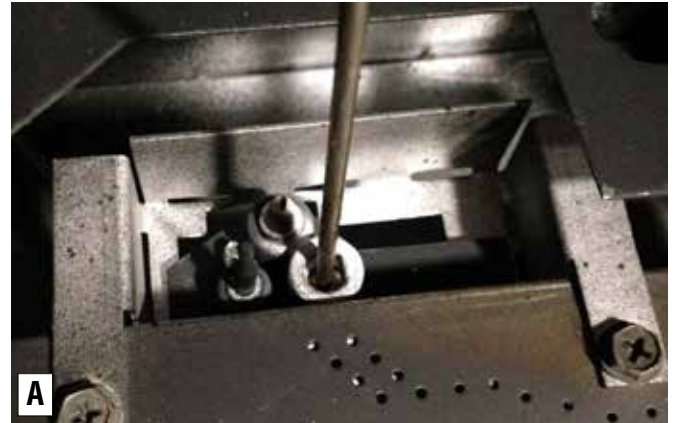

Figure 6 - Turn Pilot Orifice
Safety Gloves, Adjustable Wrench, Channel Locks, Flat Blade Screwdriver, 4mm Allen Wrench (for some pilot assemblies - see **Figure 6**), 1/4" nut driver/ socket, 5/16" Nutdriver, Pipe Joint Compound, or Teflon Tape
Step 6. For natural gas, turn counter-clockwise until it stops. See *Figure 6*.